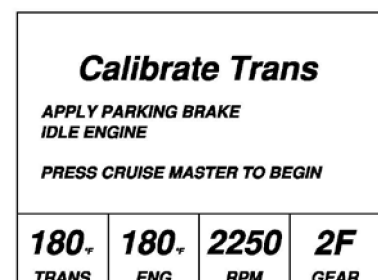

Figure 5
10. With the transmission hot and the oil topped off the cal sequence can be started. With the parking brake applied and the engine idling, press the 'Cruise Master' button to start the cal (Figure 5).